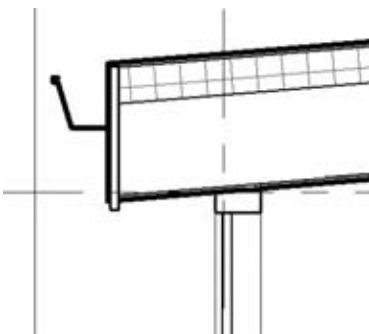

Figure 11.32
1. Use the Masking Region tool to draw a box at the roof edge. Make the box using four Medium Lines, and draw it 1” (2.5 cm) wide. Bring it to the underside of the roof sheathing, and run it just past the bottom of the soffit, as shown in Figure 11.32.